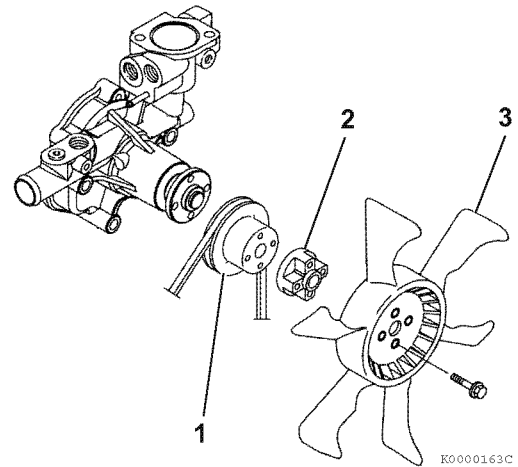

Figure 9-21
7. Install the cooling water pump V-pulley (1, **Figure 9-21**), spacer (2, **Figure 9-21**), cooling water fan (3, **Figure 9-21**), and fan guard (if equipped).